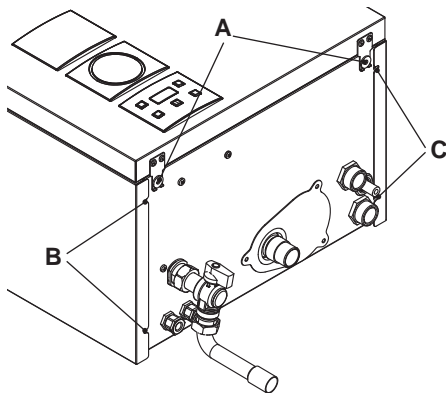
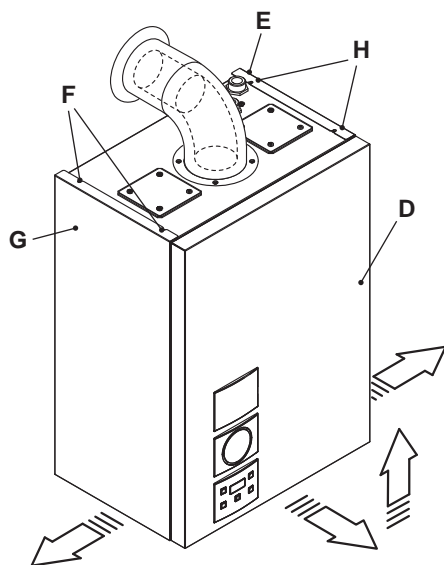

Fig. 9.1
Fig. 9.2
- Unscrew screws A and remove the front panel D by pulling it and pushing it towards the top so that it is freed from the top housings (Fig. 9.1 and Fig. 9.2).
Loosen screws " B - F " and " C - H " in Fig. 9.1 and remove the two side panels E and G by pulling towards the outside.
- Lock in place the panel D with the appropriate screws A (Fig. 9.1).